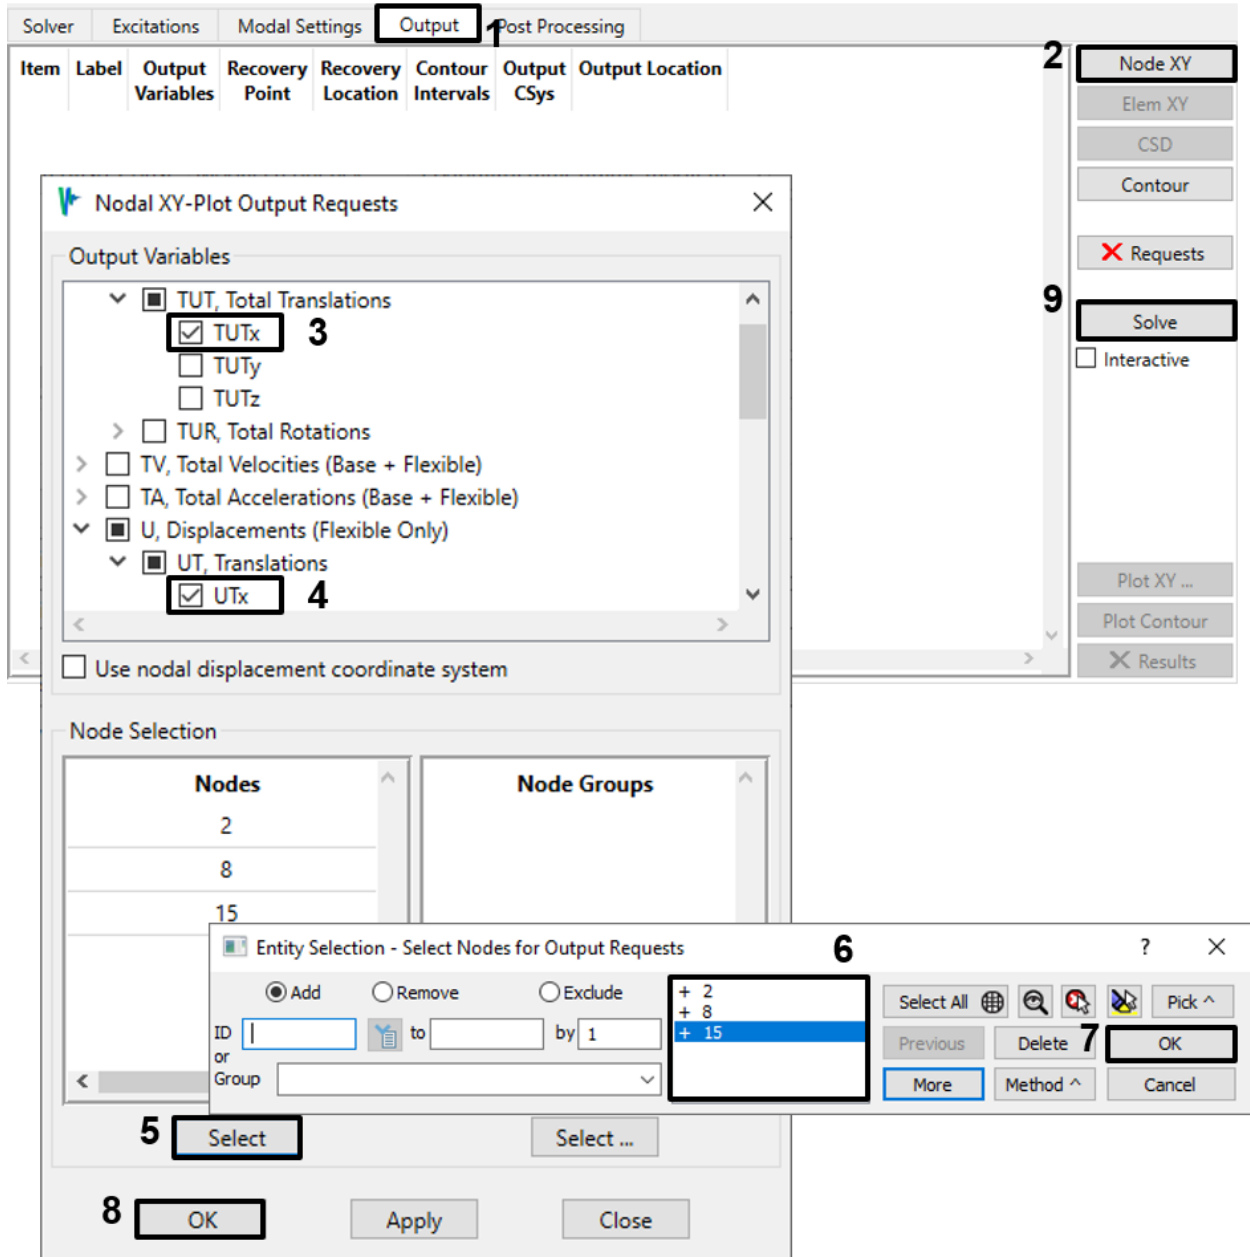

Figure 4-32. Request both flexible and total nodal X-translation plots.
6. On the *Output* tab, create a Node XY output request for flexible and total X-translations (TUT_x and Utx) for the center base (node 2), center second floor (node 8) and upper right corner (node 15), as shown in Figure 4-32.